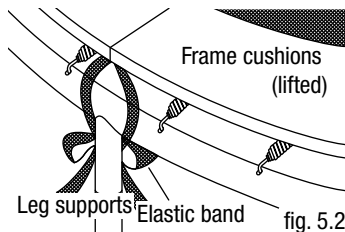

fig. 5.2
- b) Tie the bands behind the leg supports first. (see fig. 5.2).